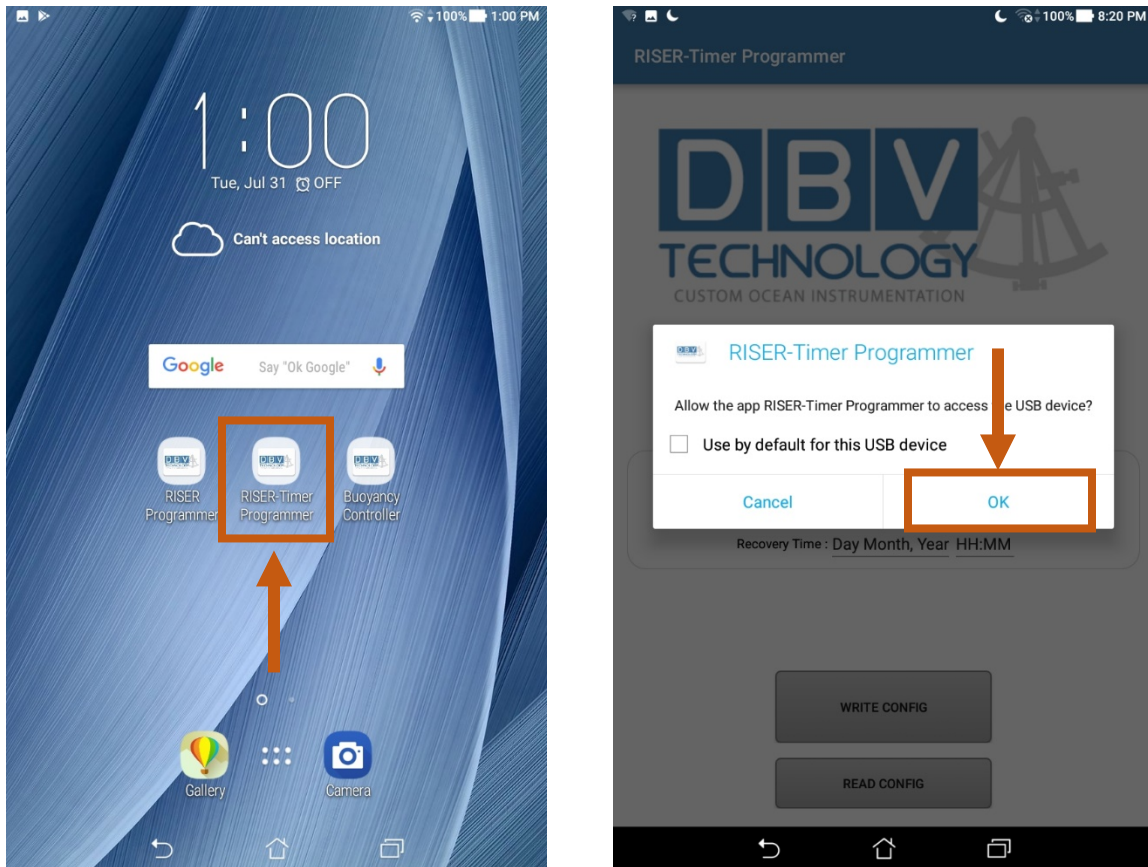

Figure 5
7. As shown in Figure 5, open the “RISER-Timer Programmer” App which can be found on the home screen of the tablet. Once the app is open, there will be a message asking for permission to use the programming cable. Press “OK”.